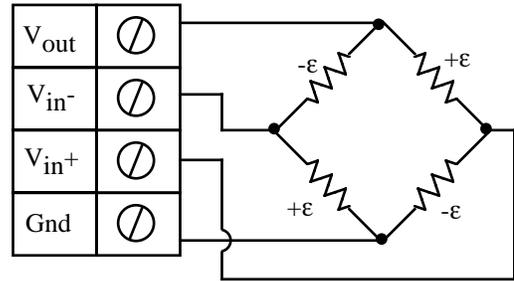

Fig 3.10 - Strain Measurement - Full Bridge Circuit (Bending)
Measuring bending strain using a full bridge configuration involves wiring four strain gages as shown in figure 3.10, applying a voltage across the bridge, and measuring the voltage across the two intermediate bridge nodes via a pair of instruNet Vin+ and Vin- input terminals. The excitation voltage for the bridge is supplied by either the instruNet Vout terminal or by an external voltage source. instruNet calculates the value of the strain, returning "strain" engineering units, using the equations:
3. Wire your voltage source per figure 3.10, and refer to the steps at the beginning of this chapter for more information on how to set up your sensor.5,10